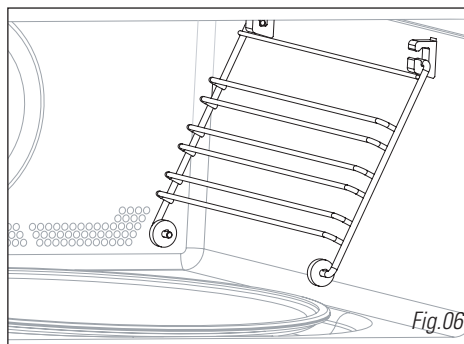

Fig.06
- **The side grills (*Fig.06*):** 2 shelves with hooks allow you to use the accessories on 3 levels.